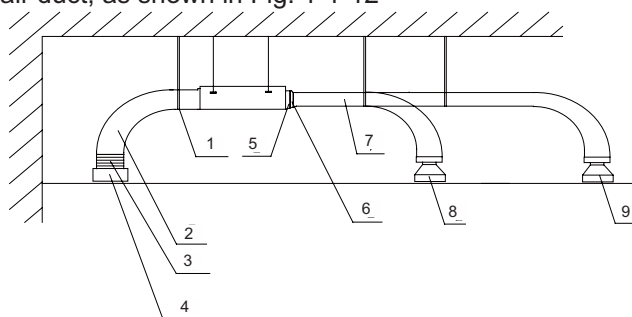

Figure 1-1-12
- Installation of round air duct, as shown in Fig. 1-1-12